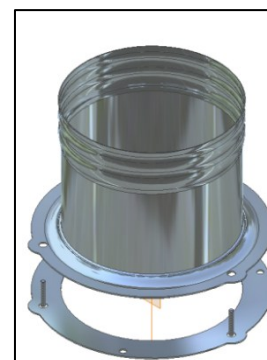

Figure 3-8: 6CON Liner Connector
The Astra 38 fireplace can be connected to a masonry chimney that complies with current national and municipal building codes. A 6 inch chimney liner that complies with ULC S635 M2000 (Canada) or UL 1777 (US) standards must be installed within the existing masonry chimney. Note that the 6CON connector (manufactured by SUPREME FIREPLACES INC.) must be installed to connect the prefabricated chimney to the liner (6CON sold separately). Refer to figure 3-8.